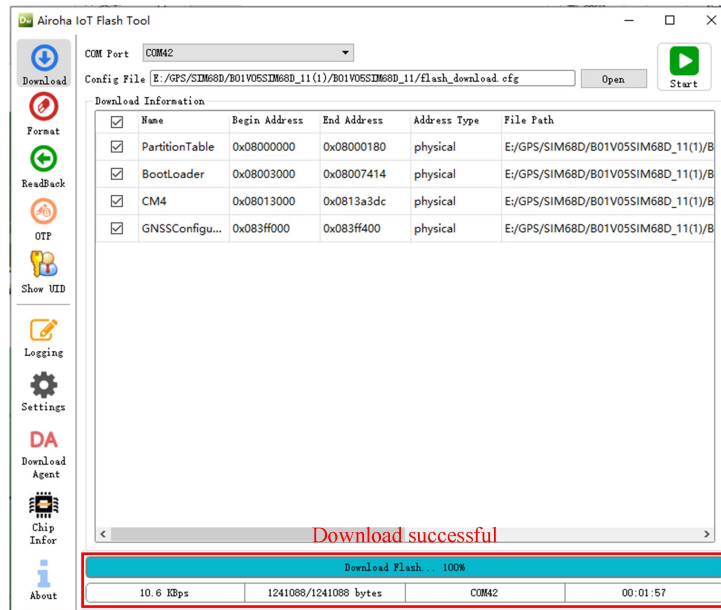

Figure 21: Download successful
3. Wait for a moment, and the download is successful as shown in Figure 21.